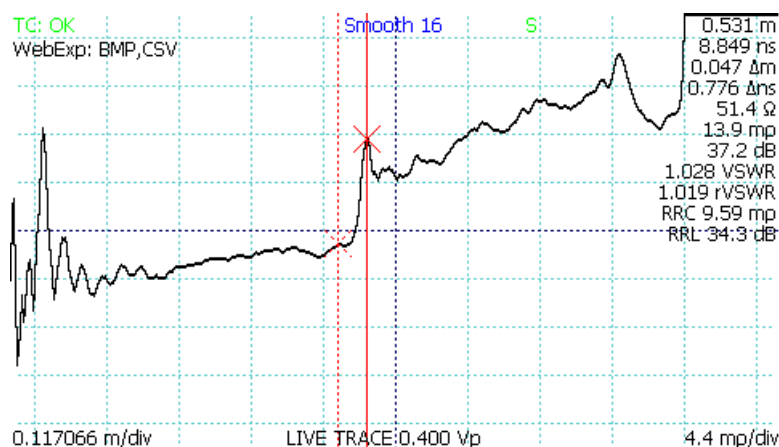

Figure 20: Vertical scale used to emphasize cable fault.
- 4) Position the active cursor on the reflection caused by the cable fault. Adjusting the vertical scale helps make cable faults more obvious, as in Figure 20 which is at the same horizontal scale and zoomed in vertically to show a ~0.8 ohm impedance fault due to the presence of an SMA connector.